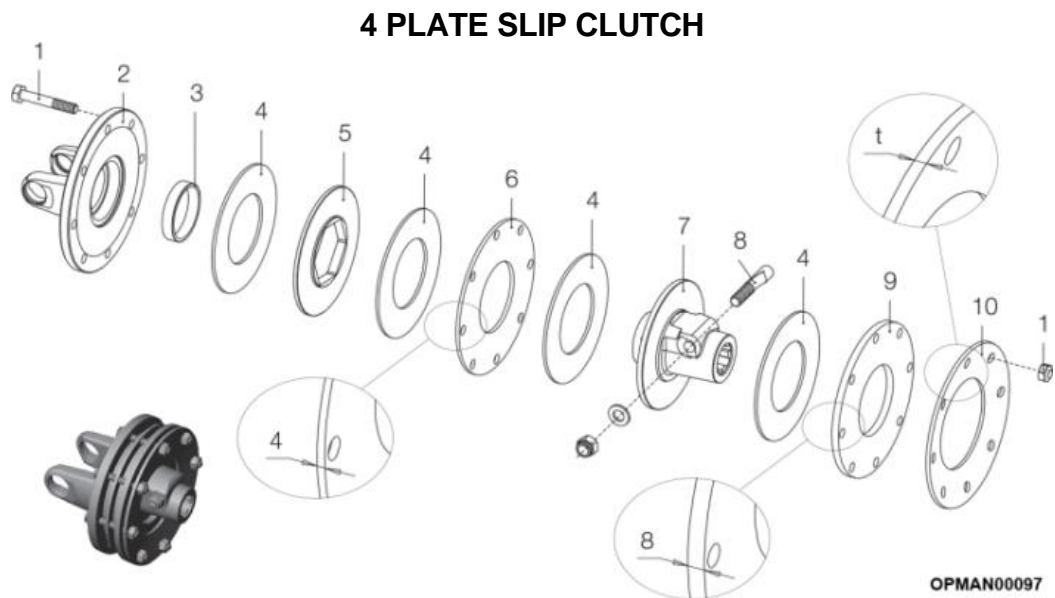

Figure 5.35
Figure 5.35 gives a full breakdown of the slip clutch and where they can be found on this machine.
- 5.4.1.6 Assemble in sequence the other parts as shown in Figure 5.35